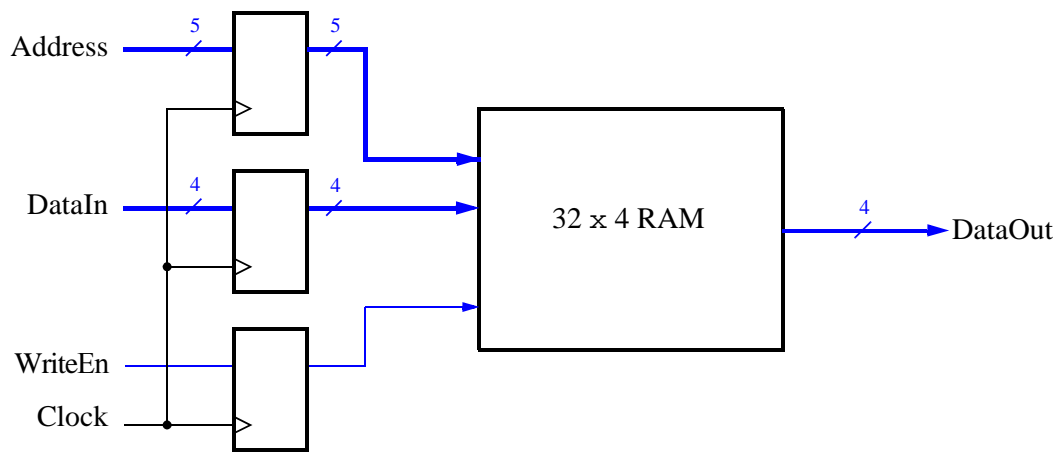

Figure 1: Schematic of the 32×4 embedded memory module.
The memory module we would like to create is shown in Figure 1. It consists of a memory block, address register, data register and a control register. You can see that the address and input data are stored in a register as well as the Write Enable control signal. Using the registers means that the *DataOut* value will be stable for one clock cycle and allows the inputs to be changed after the rising clock edge in preparation for the next clock cycle. It is a small memory so that we can easily interact with it using the available switches and displays on the the DE1-SoC board.
8. Examine the newly created Verilog file. Observe that it declares a module with the required ports as shown in Figure 1. You can now instantiate the module into any design.